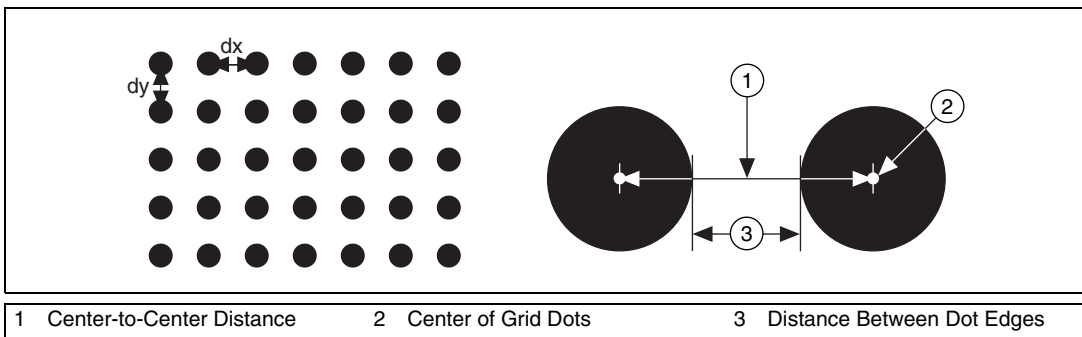

Figure 6-1. Defining a Calibration Grid
A calibration template is a user-defined grid of circular dots. As shown in Figure 6-1, the grid has constant spacings in the x and y directions. You can use any grid, but follow these guidelines for best results:
- The center-to-center distance between dots should range from 18 to 32 pixels, as shown in Figure 6-1.
- The minimum distance between the edges of the dots should be 6 pixels, as shown in Figure 6-1.